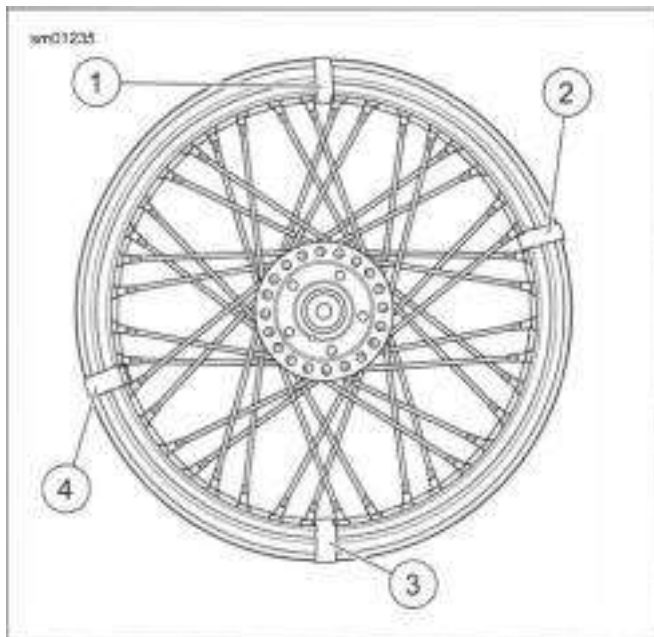

Figure 3-15. Marking Spoke Groups
1. See Figure 3-15. Prepare rim.